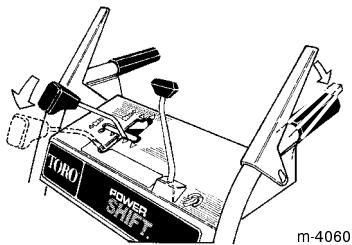

Figure 20
2. Move the speed shift control fully forward to the Power Shift position and hold it there (Fig. 20).
3. Fully engage the traction drive lever to move the wheels into the alternate position (Figs. 20 and 21).